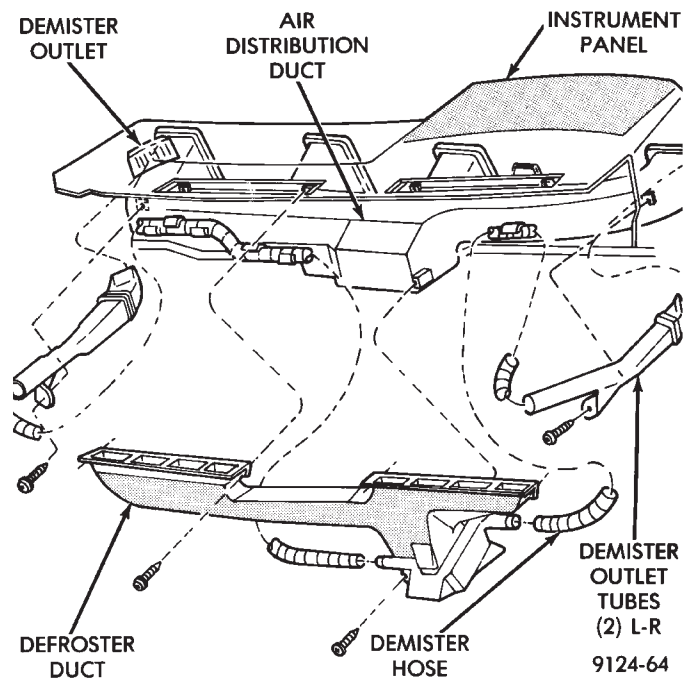

Fig. 7 Defroster Ducts/Demister Ducts and Hoses
(1) Instrument panel assembly must be removed. Refer to group 8e, Instrument Panel and Gauges.
(2) After instrument panel has been removed, separate the defroster/demister ducts from the air distribution duct.
(3) Remove the demister tubes and hoses (Fig. 7).